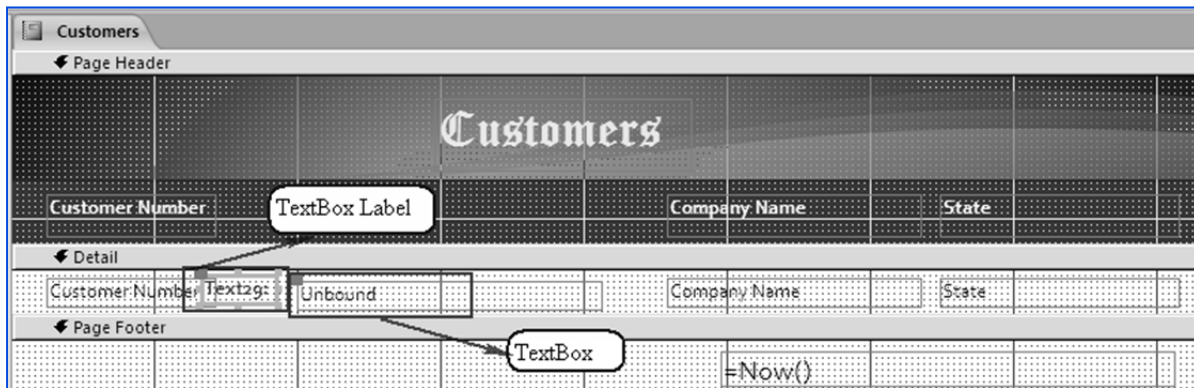

Fig. 2.4.9. Add Textbox control to Report
3. Drag the *Textbox* in place of *First Name* and *Last Name* textboxes. The report should appear, as shown in Fig. 2.4.9.